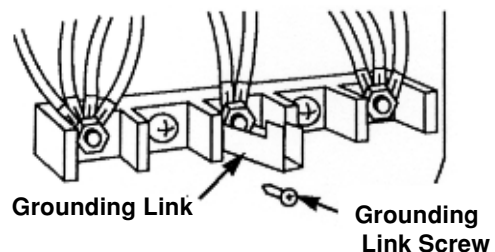

Figure 2-8
5. Slide the lead end of the power supply cord through the conduit connector and tighten the strain relief clamp. Make sure that you allow enough slack in the cord so you can easily connect the lead ends to the terminal block screws (see Figure 2-8).
6. Remove the grounding link screw from the range frame (see Figure 2-8).